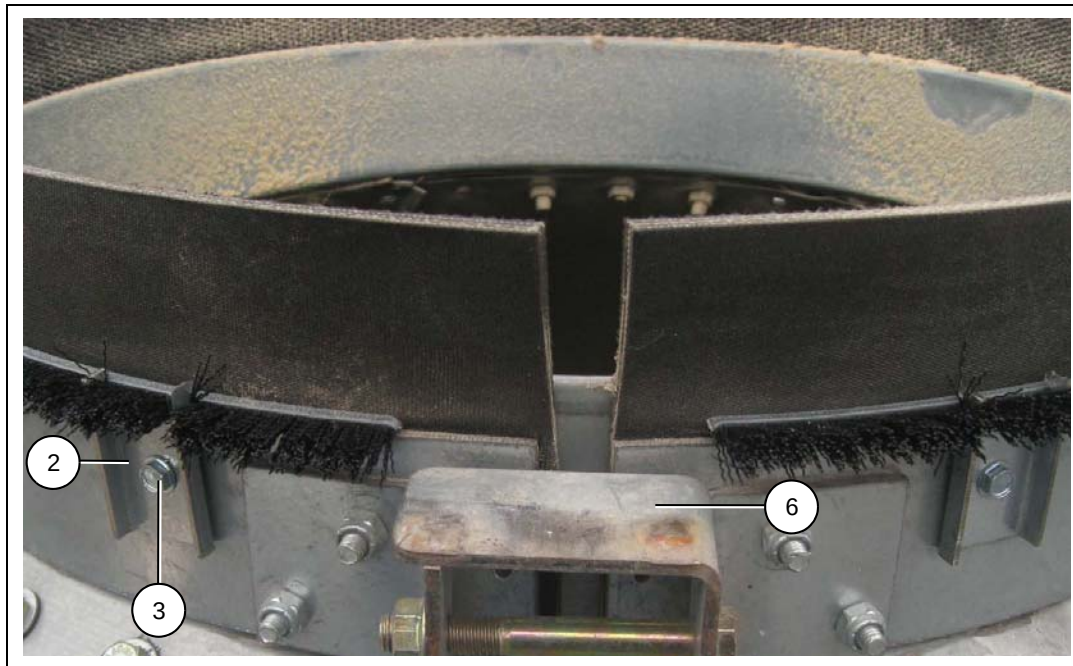

Figure 2
4. Place a clamp (2) on each side of the striker plate (6) with the hook of the clamp positioned on the brush as shown in Figure 2.
5. Install a self-drilling screw (3) through each clamp. (See Figure 2.)